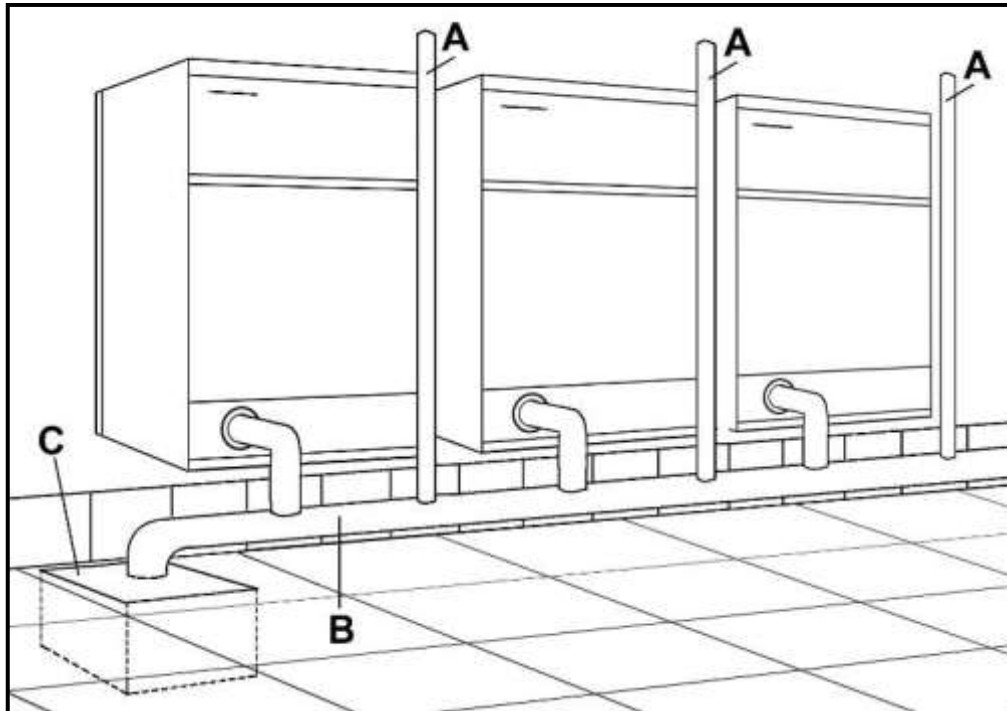

Fig. 3.3
**Direct connection of the washer drain to the manifold (Fig. 3.3)**
The emptying of the drain trap to the sewer system is done through an open drain box (**Fig. 3.3/B and C**) which prevents variations in pressure and backflow to the drain. **The end of the drain trap must not be sunk in the box.**